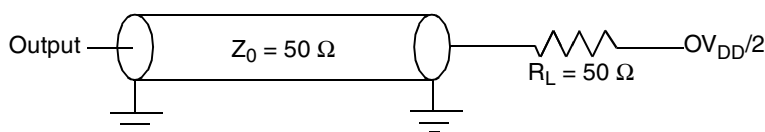

Figure 21. Local Bus C Test Load
Figure 21 provides the AC test load for the local bus.
1. All outputs are measured from the midpoint voltage of the falling/rising edge of t_{CLK} to the midpoint of the signal in question. The output timings are measured at the pins. All output timings assume a purely resistive 50- Ω load (see Figure 21). Time-of-flight delays must be added for trace lengths, vias, and connectors in the system.
2. The symbols used for timing specifications herein follow the pattern of $t_{(first\ two\ letters\ of\ functional\ block)(signal)(state)\ (reference)(state)}$ for inputs and $t_{(first\ two\ letters\ of\ functional\ block)(reference)(state)(signal)(state)}$ for outputs. For example, t_{JTDVKH} symbolizes JTAG device timing (JT) with respect to the time data input signals (D) reaching the valid state (V) relative to the t_{JTG} clock reference (K) going to the high (H) state or setup time. Also, t_{JTDXKH} symbolizes JTAG timing (JT) with respect to the time data input signals (D) went invalid (X) relative to the t_{JTG} clock reference (K) going to the high (H) state. Note that, in general, the clock reference symbol representation is based on three letters representing the clock of a particular functional. For rise and fall times, the latter convention is used with the appropriate letter: R (rise) or F (fall).